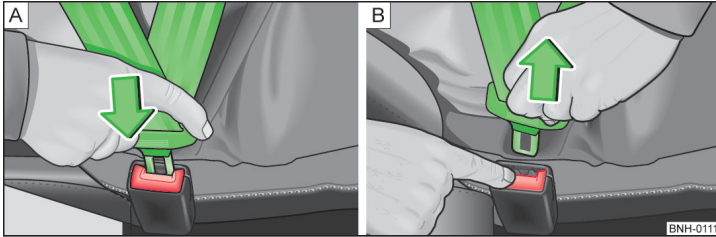

Fig. 5 Fastening/unfastening the seat belt
- › Insert the lock tongue into the belt buckle belonging to the seat » Fig. 5 - [A] until it you hear it click into place.
- › Press the red button in the belt buckle » Fig. 5 - [B], the lock tongue pops out.